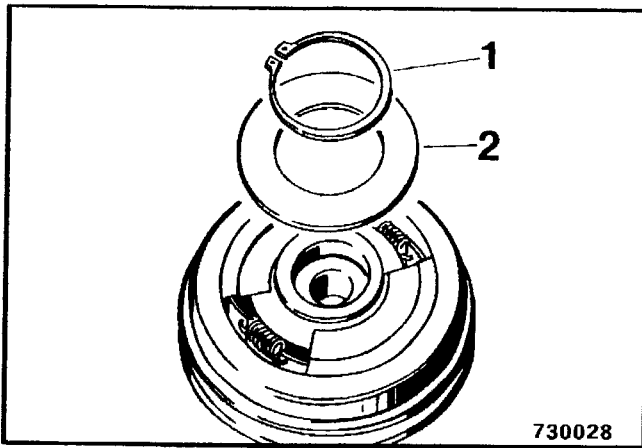

Fig. 1
- Remove the circlip 1 (Fig. 1).
- Remove the cover plate (2).